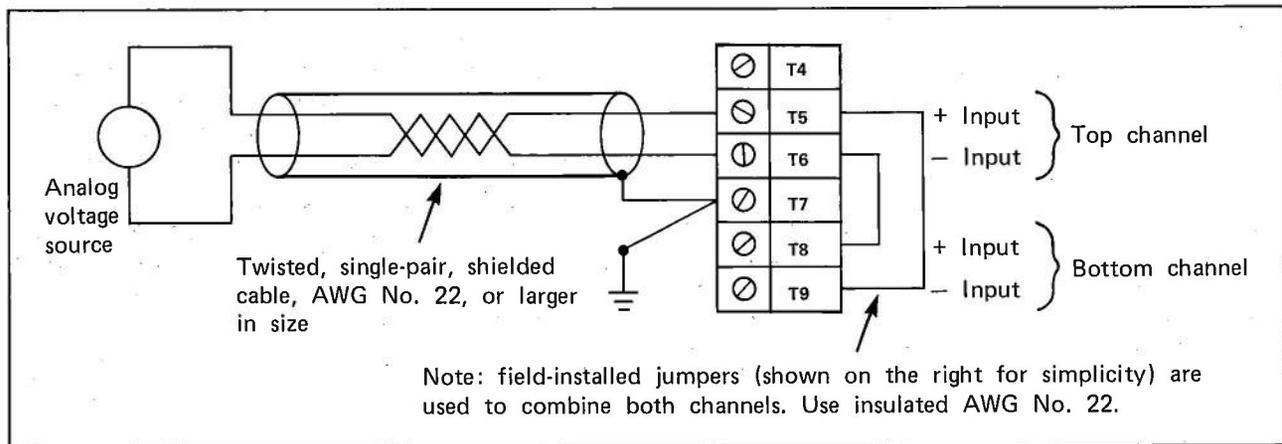

Figure 9 – Bi-polar Input Connections
5. It is possible to wire the top and bottom channels to form a single bi-polar analog input. To do so, connect both channels to the same analog voltage input source with their polarities reversed. In this way one channel handles the 0 to +10 VDC; the other handles the 0 to -10 VDC. (See Figure 9.)
It is also necessary to install jumpers on the I/O Arm terminal block between T5 and T9 and between T6 and T8. (See Figure 9.)